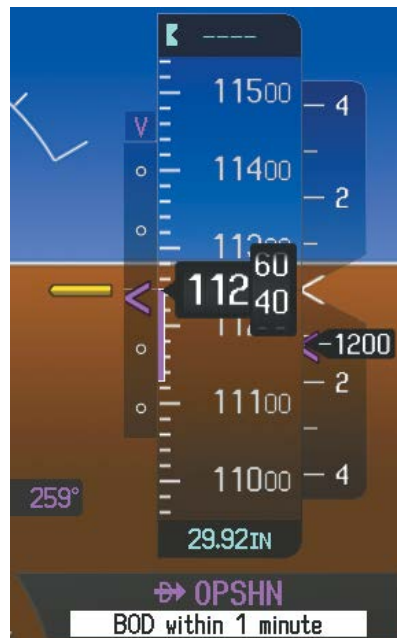

Figure 5-186 Approaching Bottom of Descent (BOD) at OPSHN Offset Waypoint
- 17) When the aircraft is one minute from the bottom of descent (BOD) it is annunciated as shown in Figure 5-186. Upon reaching the offset waypoint for OPSHN, the aircraft is at 10,000 feet.